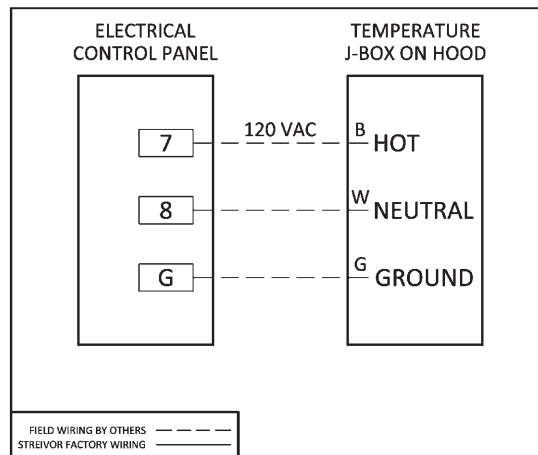

Figure 10A: Temperature Monitor Wiring*
- Connect 120 VAC single phase control power from terminal block 7 (hot), terminal block 8 (signal), and ground in the ECP to the wires labeled “Temp” in the junction box on the hood closest to the ECP (Figure 10A).